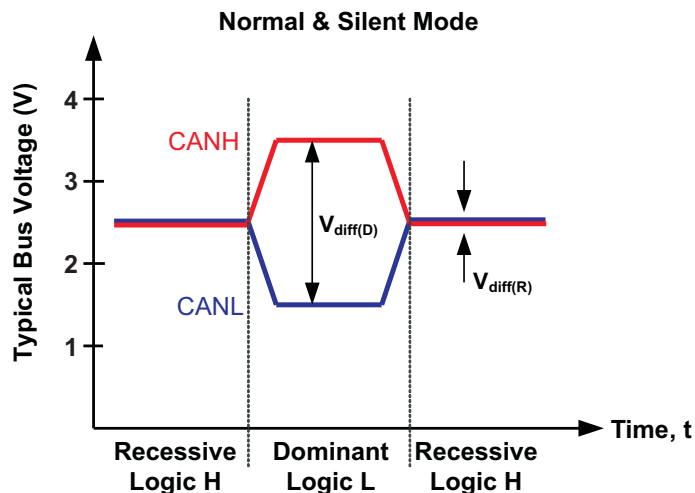
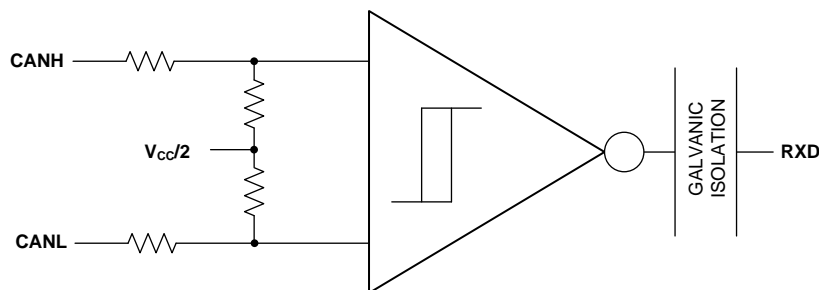

Figure 1. Bus States (Physical Bit Representation)
Figure 2. Simplified Recessive Common Mode Bias and Receiver
The CAN bus has two states during operation: *dominant* and *recessive*. A dominant bus state, equivalent to logic low, is when the bus is driven differentially by a driver. A recessive bus state is when the bus is biased to a common mode of  $V_{CC} / 2$  via the high-resistance internal input resistors of the receiver, equivalent to a logic high. The host microprocessor of the CAN node will use the TXD pin to drive the bus and will receive data from the bus on the RXD pin. See Figure 1 and Figure 2.
(1) H = high level, L = low level, Z = common mode (recessive) bias to  $V_{CC} / 2$ . See Figure 1 and Figure 2 for bus state and common mode bias information.